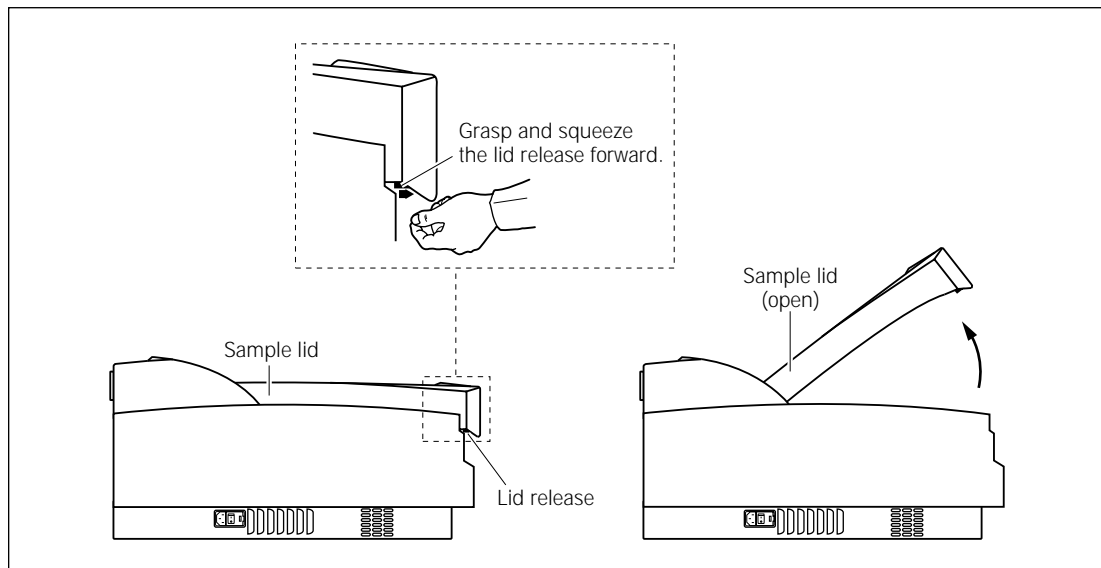

Figure 8-1. Releasing and opening the sample lid.
1. Grasp the lid release under the center front of the sample lid and pull the release forward until the lid opens (figure 8-1). Raise the lid all the way.
1. If the sample lid is not already open, grasp the lid release under the center front of the lid and pull the release forward until the lid opens (figure 8-1). Raise the lid all the way.